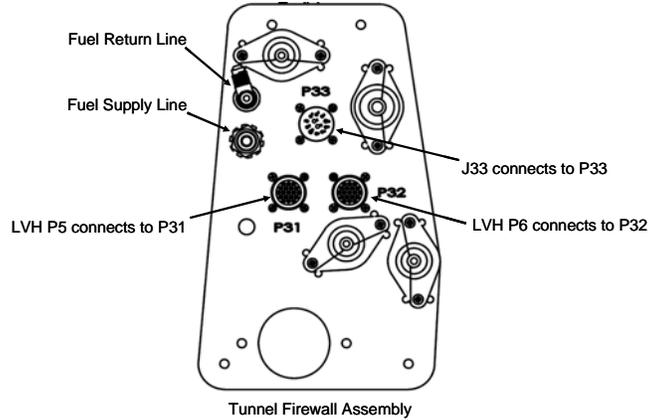

Figure 71-16 Tunnel Firewall Assembly Electrical Connections
12. Connect P5 To P32 on the tunnel firewall assembly as shown in Figure 71-16.
13. Connect P6 To P32 on the tunnel firewall assembly as shown in Figure 71-16.
14. Connect J33 To P33 on the tunnel firewall assembly as shown in Figure 71-16.